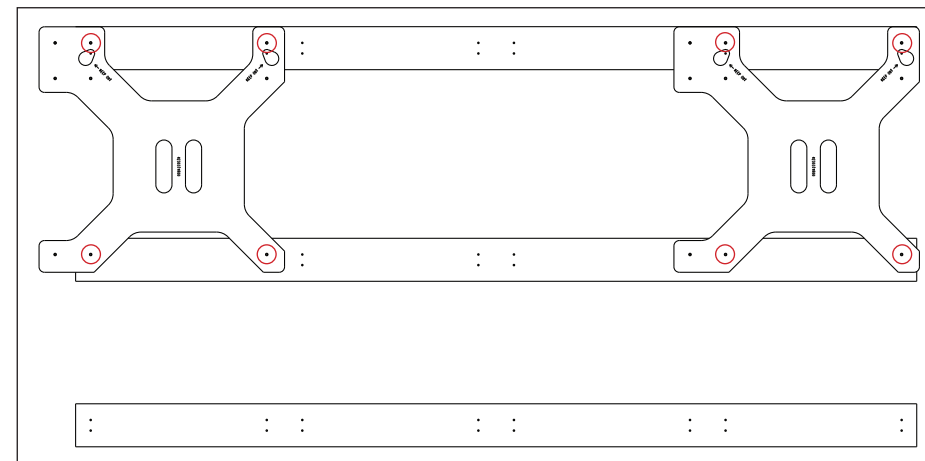

Figure 5: Install Third & Higher Wall Tubes
4. Install the third and higher wall tubes while referring to **Figure 5:**
- c. Drill four 17/64" (~0.266") clearance holes through the front and rear walls of the tube at all stud locations. Refer to **Figure 5**.